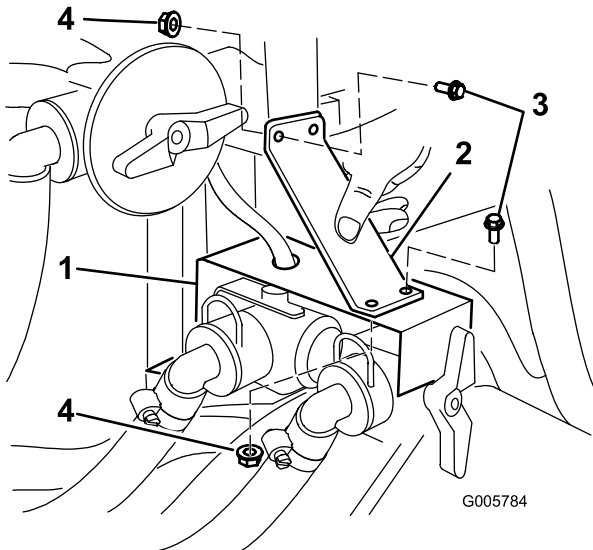

Figure 7
10. Install the support bracket as shown in Figure 7, using 4 flange-head bolts (1/4 x 3/4 inch) and 4 flange nuts (1/4 inch).